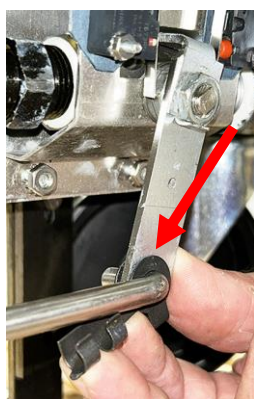

Figure 12
18. Place the clevis hook over the front washdown valve handle. Insert the handle assembly rod through the clevis clip, through the handle into the assembly. Rotate the clip over the rod and snap into place as shown (see Figure 12).